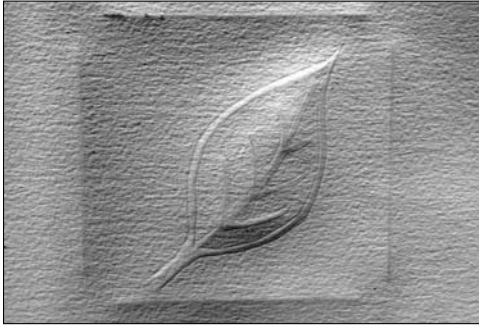

Figure 1-12:
- ✓ **Bas-relief:** Just barely 3D, bas-relief pictures use a little depth and some light and shadow to make a scene. You can create these pictures, as Figure 1-12 shows, by making a sculpted dent in a sheet of paper using a burnishing tool.